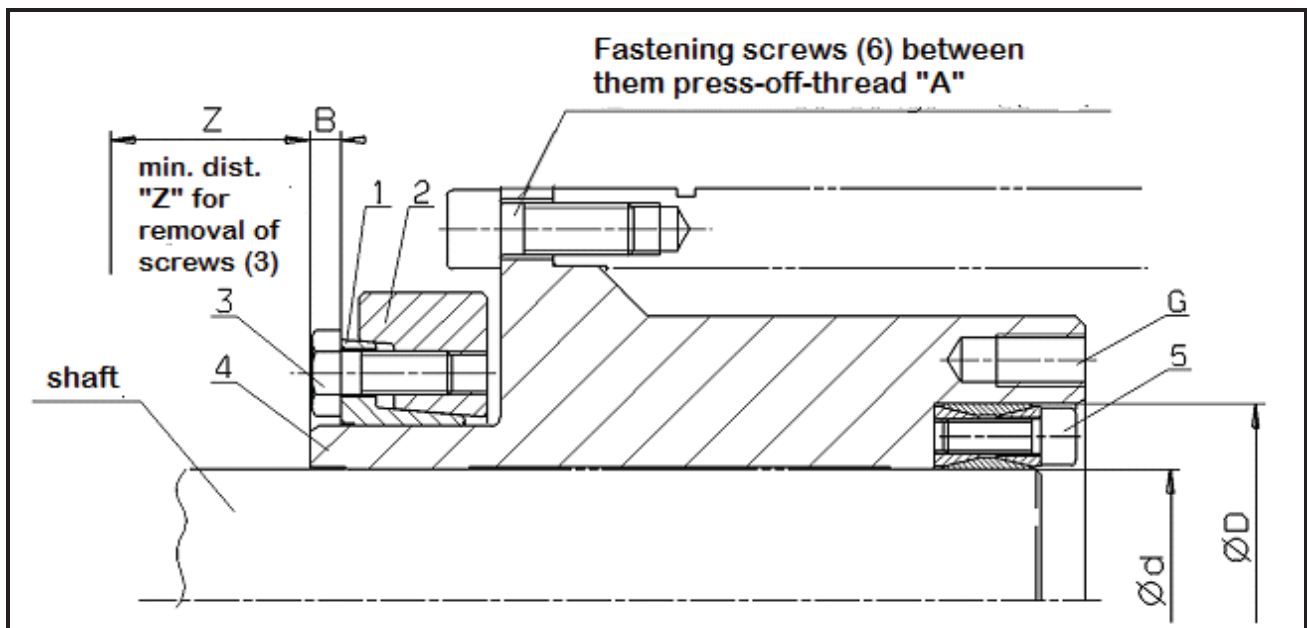

Fig. 2.1
- Loosen the fastening screws (6).
- Pull the electric motor off of the RTM 608 Clamping System. Use press-off threading “A” (see Fig. 2.1 and Table 2.1) to facilitate the procedure if necessary.
- Loosen the clamping screws (3) one by one in several increments of one-quarter turn each. This helps prevent screw breakage and clamping surface tilting.
- Pull the centring bushing (4) off of the shaft. Use press-off threading "G" (see Fig. 2.1 and Table 2.1) to facilitate the procedure if necessary.